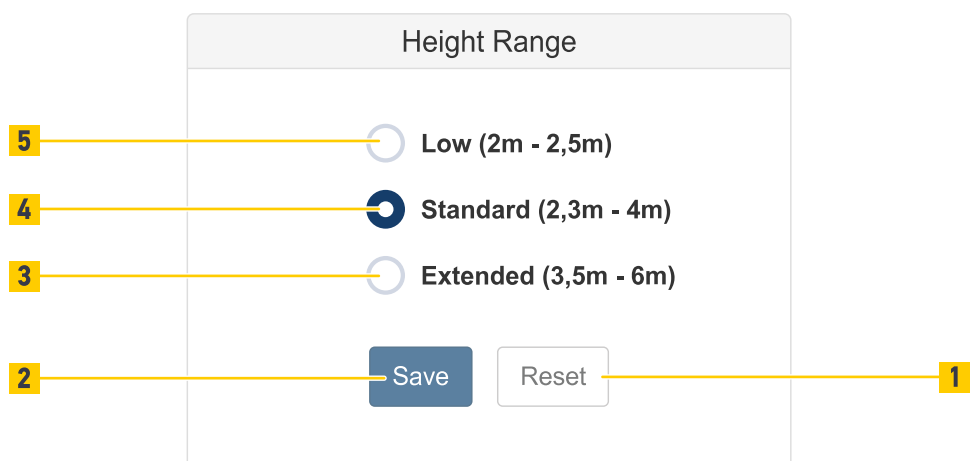

Fig. 82: Height Range
- To set the device for low height select Low (Fig. 82 /5).
- To set the device for standard height select Standard (Fig. 82 /4).
- To set the device for extended height select Extended (Fig. 82 /3).
- To go back to the last saved settings click the Reset button (Fig. 82 /1).
- To save all the settings in the device click the Save button (Fig. 82 /2).